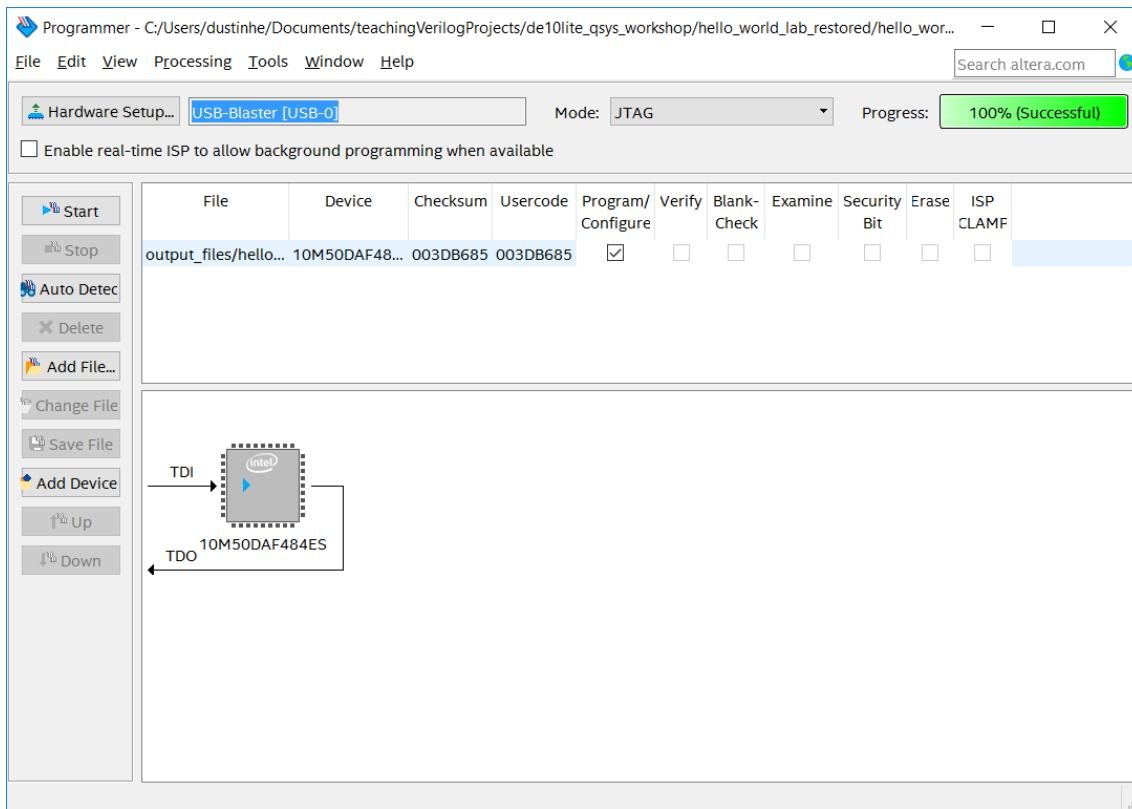

Figure 18: Successful programming of the .sof file to the FPGA
- Click **Start**. Observe the progress meter complete to "100% (Successful)." Figure 18 below shows the programmer window after a successful .sof programming file has been uploaded to the FPGA. On occasion, you need to click the Start button twice to get this step to work properly.